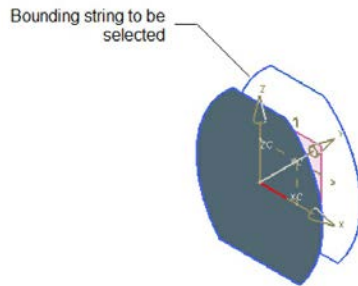
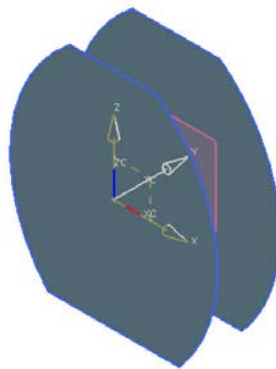

Figure 11-44 Projected curves
Figure 11-45 Second feature of the surface model
- Create the second feature using the **Bounded Plane** tool, refer to Figures 11-44 and 11-45.
4. Exit the Sketch in Task environment; the curves are projected, refer to Figure 11-44.
6. Select the projected curve, as shown in Figure 11-44, and choose the **OK** button; the second feature is created, as shown in Figure 11-45.